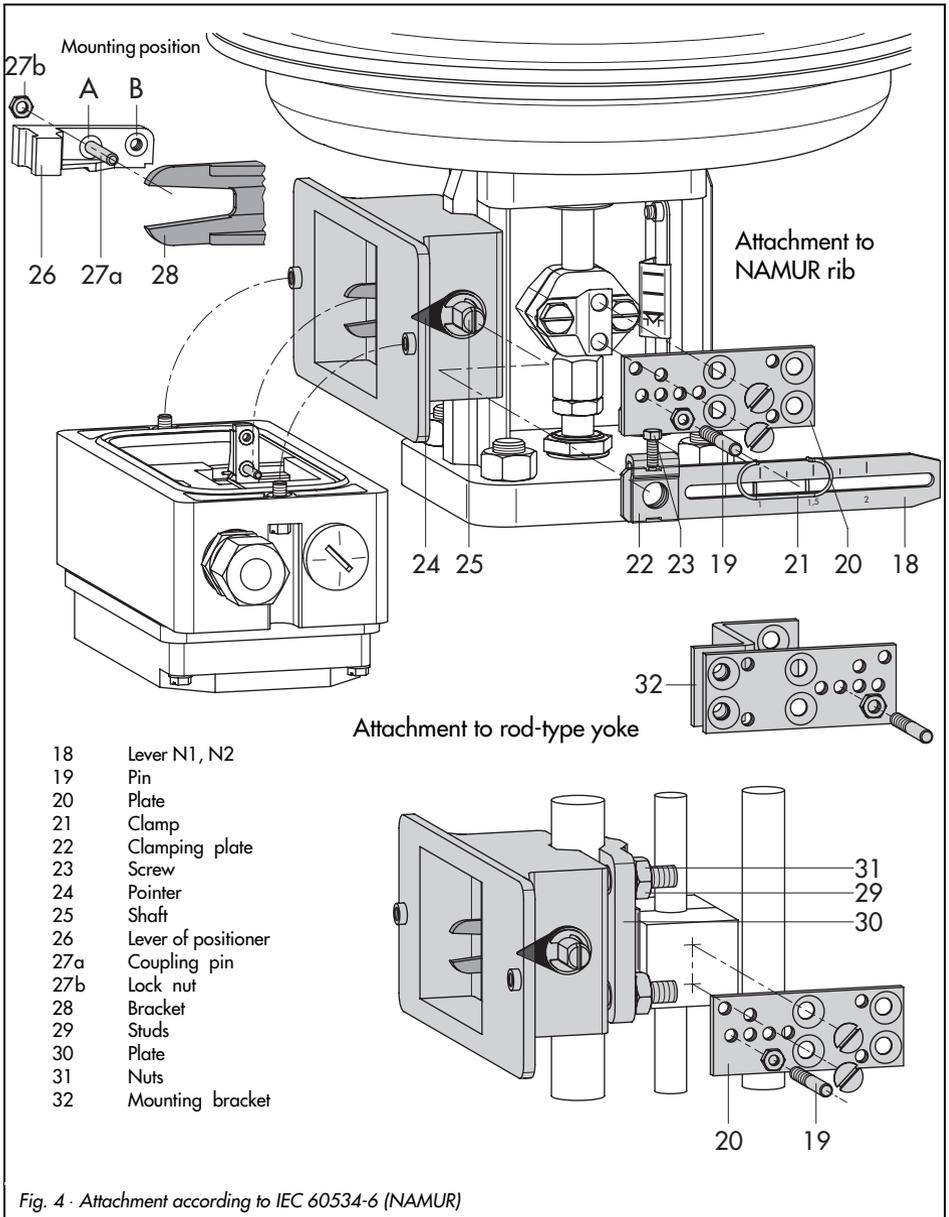

Fig. 4 · Attachment according to IEC 60534-6 (NAMUR)
The positioner is attached using an adapter housing as shown in Fig. 4. The valve travel is transmitted via the lever (18) and the shaft (25) to the bracket (28) of the adapter housing and then to the pin (27a) located at the positioner lever.
| NAMUR mounting kit Parts illustrated in Fig.4 | Valve with cast yoke | | | | 7.5 to 60 | N1 (125 mm) | 1400-6787 |